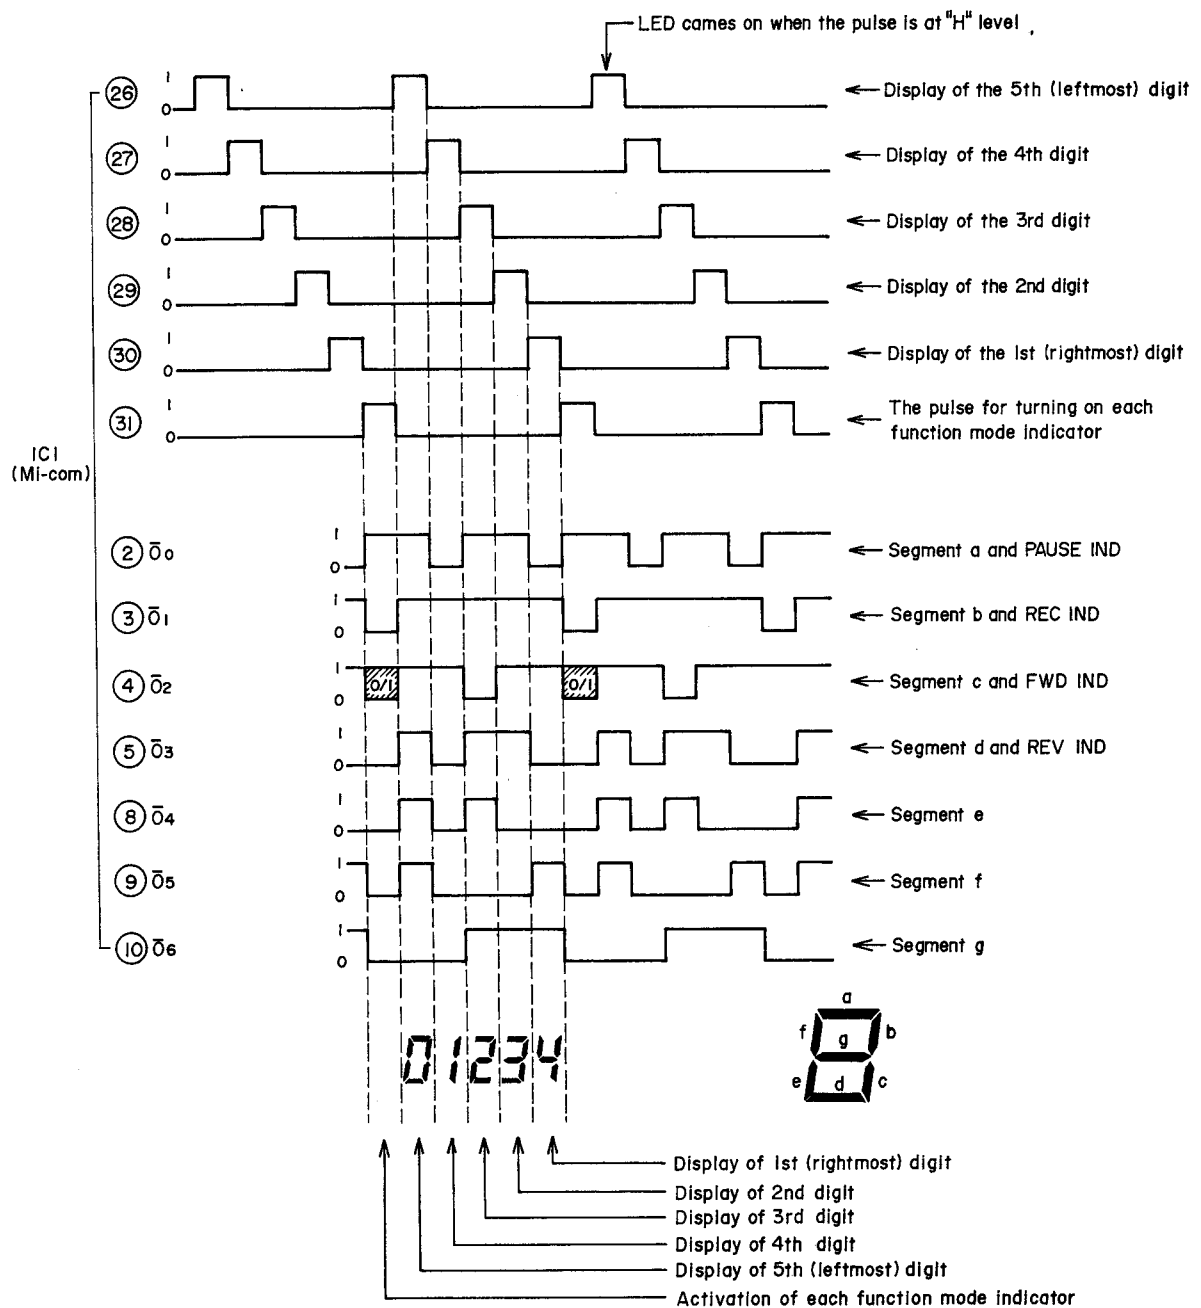

Fig. 23
The function mode indicator lighting is also controlled by the operation timing of the control signal from the microcomputer. Here we will explain about the situation in Fig. 23 (FWD PLAY/PAUSE) as one example. Hereinafter FWD PLAY is just written as PLAY. Under PLAY/PAUSE, PAUSE of the function mode indicator is always lit and PLAY is flashing. Firstly, refer to the vertical row of the function mode indicators of O0 - O3 in Fig. 23. You will note that PAUSE IND has "H" level, PLAY IND has "L/H" flashing and others have "L" level.
Fig. 23 shows the timing chart. By means of the waveforms of IC ②⑥ - ③① coming from the microcomputer, the lighting position of LED of each digit is moved in sequence. Take the example of the first digit.
tion of $\bar{O}_0 - \bar{O}_6$ of the first digit indication in Fig. 23, b, c, f, and g segments are lit and a, d and e segments are dark. In this condition, the indicator indicates 4. Similarly if we look at the 2nd - 5th digits, 01234 is indicated in the condition of Fig. 23.